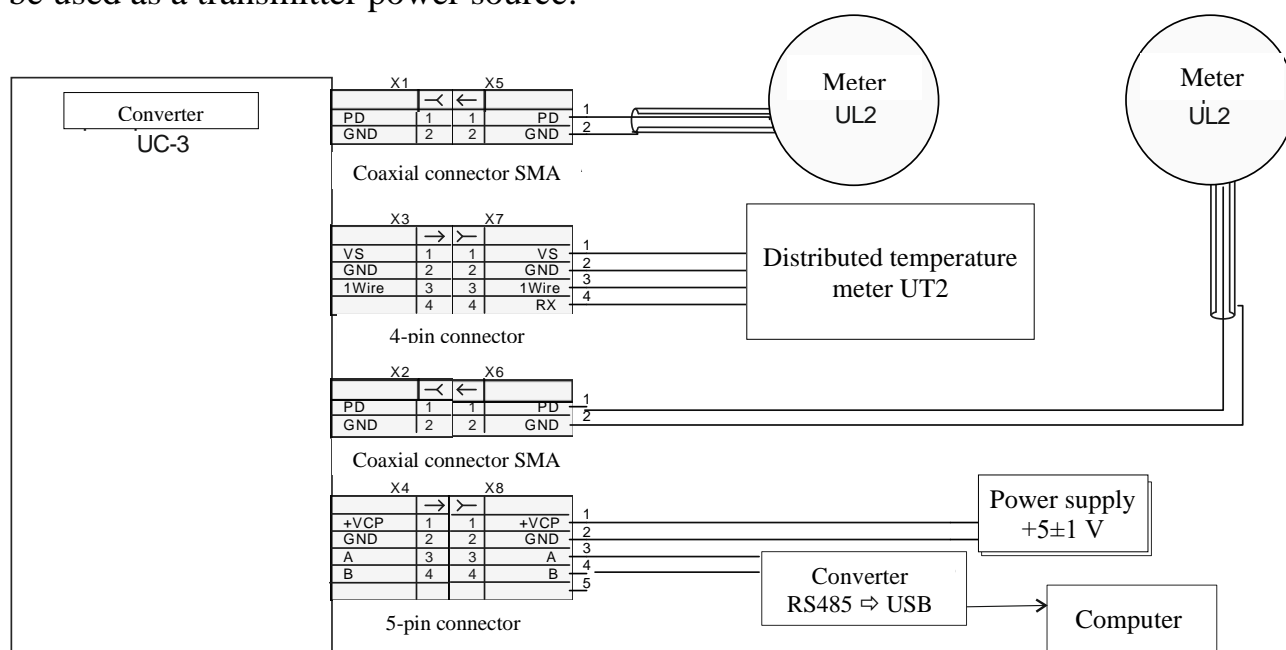

Fig. 16.1
16.3 When installing the transmitter in the explosion-proof area, connect the interface wires using an adapter cable to a PC via USB/RS-485 converter (see Fig. 16.1, Appendix C and Table 10.1). Apply voltage to the transmitter. The voltage of the 5 V USB port of the PC can be used as a transmitter power source.